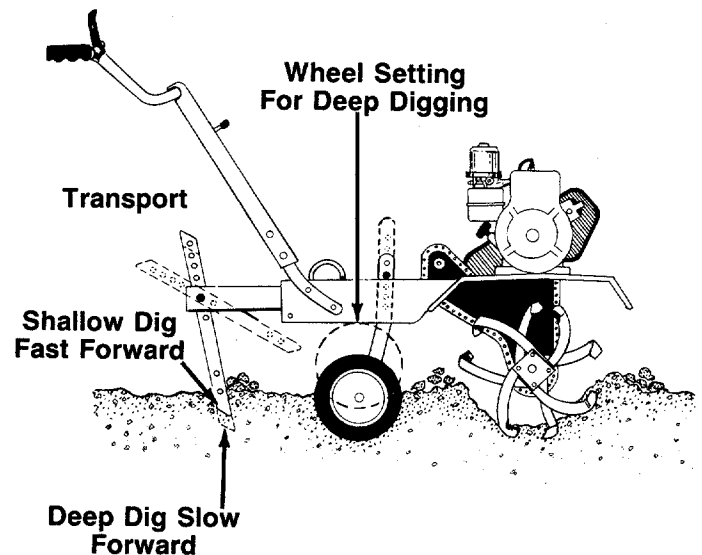

FIGURE 24.
2. **Depth Bar Adjustment:** The depth bar acts as a brake for the tiller and controls the depth and speed at which the machine will operate. See figure 24. Remove the clevis pin and hairpin cotter to raise or lower depth bar.
To transport the tiller to or from the garden, raise the depth bar to the highest position. See figure 24. With the throttle control in SLOW position, the unit will move under its own power, without damaging grass areas as long as it is allowed to move freely. If the operator holds back, it will start to dig.